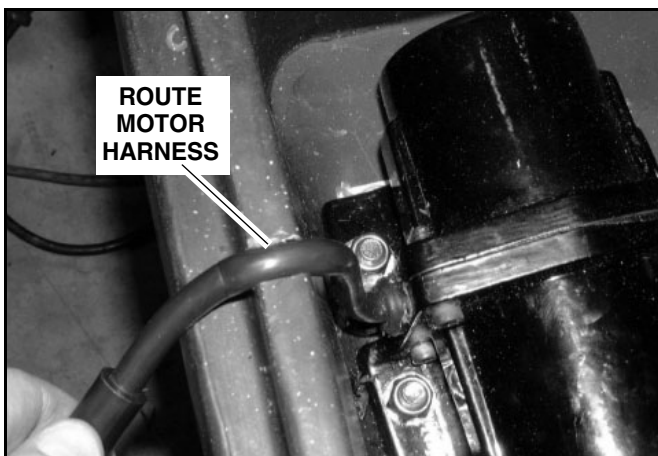

Figure 10
1. Route motor harness through channel in motor plate rim (See Figure 10). Seal channel with silicone sealant.